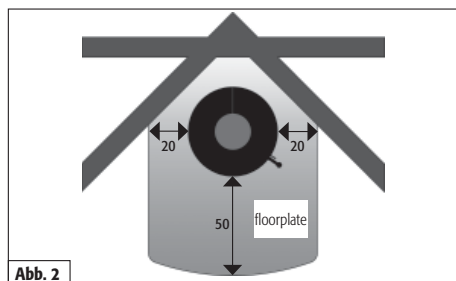

Abb. 2
**The size of the floorplate must be larger than the base of the stove by at least 50 cm in front and at least 20 cm at the sides of the stove (Fig. 2).**